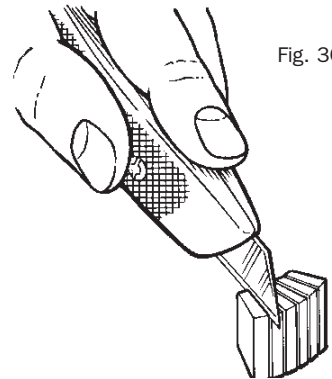

Fig. 30
- iii) Using a sharp knife, cut off one segment of the limit stop as shown in Fig. 30.